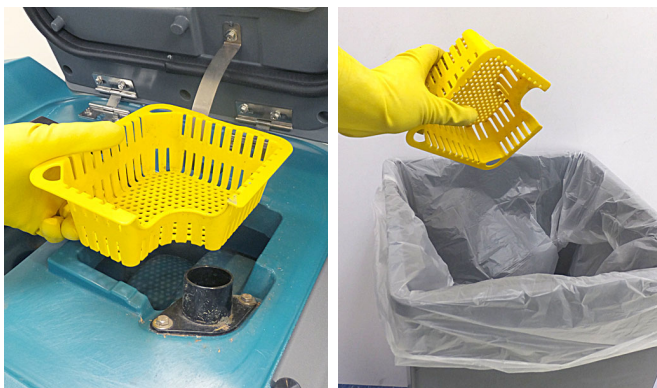

FIG. 78
4. Remove the debris tray and empty (Figure 78).